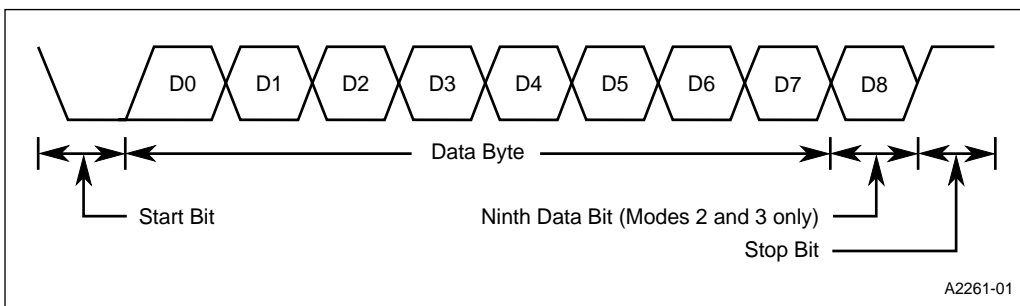

Figure 12-4. Data Frame (Modes 1, 2, and 3)
- **Mode 1.** Mode 1 is a full-duplex, asynchronous mode. The data frame (Figure 12-4) consists of 10 bits: one start bit, eight data bits, and one stop bit. Serial data is transmitted on the TXD pin and received on the RXD pin. When a message is received, the stop bit is read in the RB8 bit in the SCON register. The baud rate is generated by overflow of timer 1 or timer 2 (see section 12.6, “Baud Rates”).
- **Modes 2 and 3.** Modes 2 and 3 are full-duplex, asynchronous modes. The data frame (Figure 12-4) consists of 11 bits: one start bit, eight data bits (transmitted and received LSB first), one programmable ninth data bit, and one stop bit. Serial data is transmitted on the TXD pin and received on the RXD pin. On receive, the ninth bit is read from the RB8 bit in the SCON register. On transmit, the ninth data bit is written to the TB8 bit in the SCON register. (Alternatively, you can use the ninth bit as a command/data flag.)